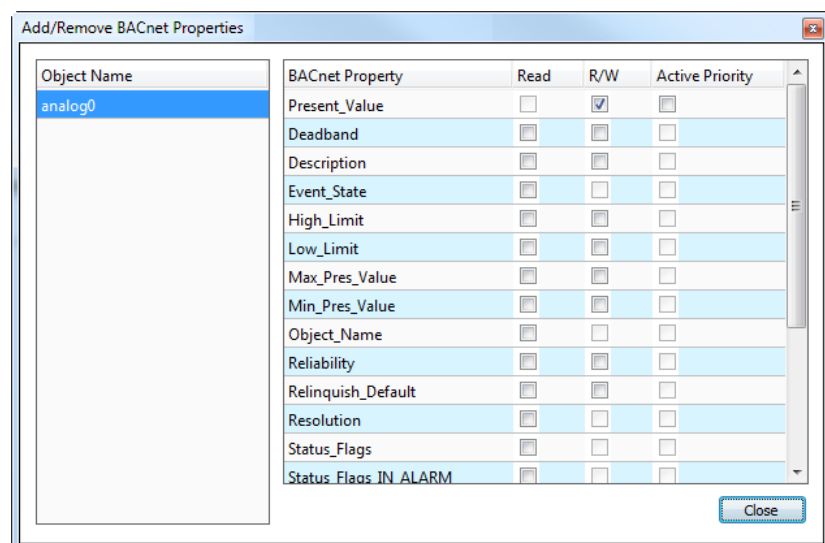

Figure 171: Dialog for adding/removing BACnet properties.
- Right-click on the data point and select **Add/Remove BACnet properties ...** from the context menu. The dialog appears as shown in Figure 171.